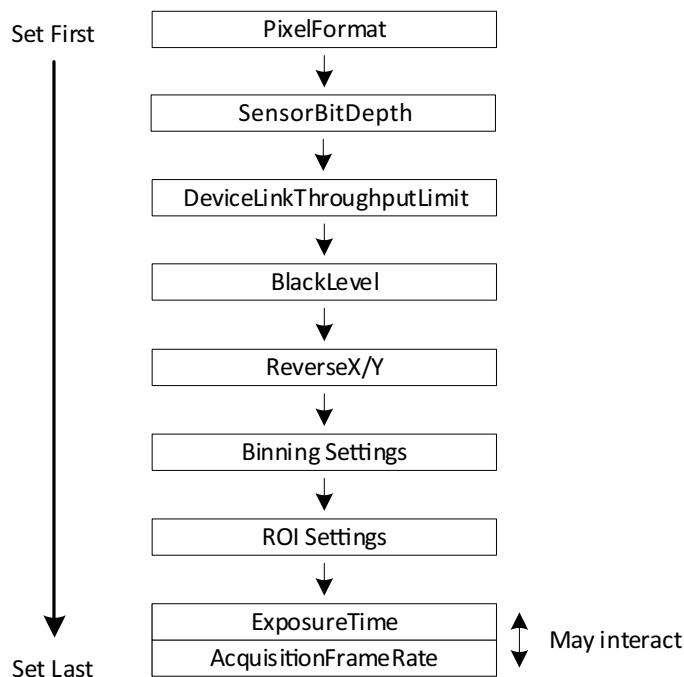

Figure 130: Interdependencies between features
The conversion between time and clock cycles affects control values. Features for pixel format, bandwidth, ROI, exposure time, and triggering are related to each other. Changing values for one feature can change values for another feature. For example, frame rates can be reduced when `PixelFormat` is changed subsequently. Figure 130 shows the interdependencies.
- To avoid readjustments, apply settings in the order shown in Figure 130.